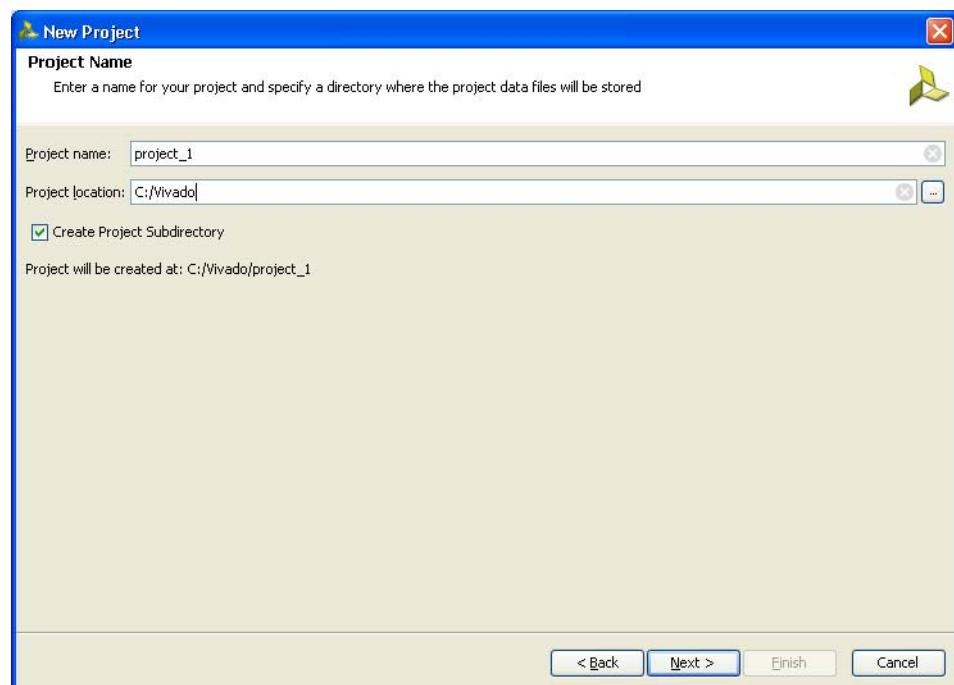

Figure 6-3: Project Name
3. Click **Next** to proceed to the Project Name page (Figure 6-3). Enter the Project Name and Project Location. Based on the details provided, the project is saved in the directory.